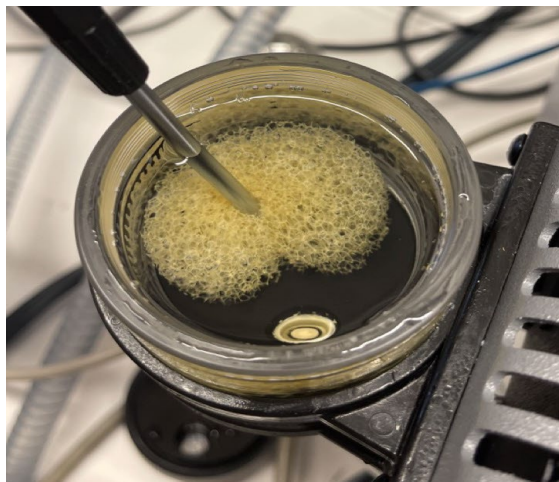

Figure 21: Confirmation of Coolant Flow
6. To inspect the coolant flow, open the tank as shown in Figure 21, use a hex drive or a long pin to pinch the sponge, and reveal the two openings on the bottom of the reservoir. Make sure bubbles are forming.